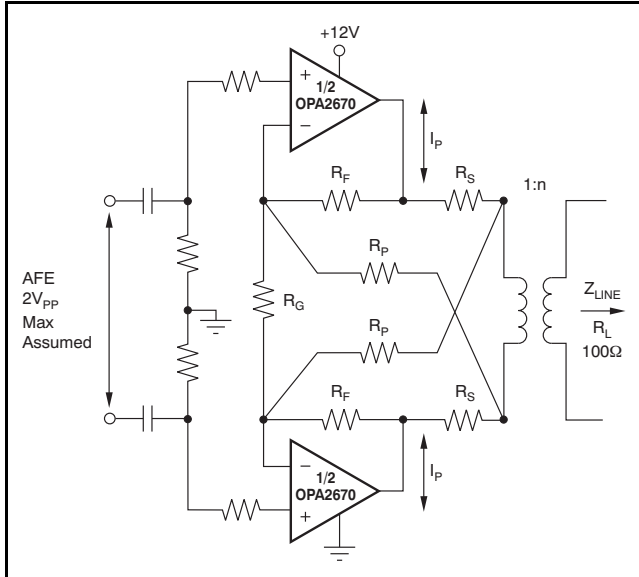

Figure 39. Dual-Supply VDSL Downstream Driver
Figure 39 shows an example of a dual-supply VDSL downstream driver. Both channels of the OPA2670 are configured as a differential gain stage to provide signal drive to the primary winding of the transformer (in Figure 39, a step-up transformer with a turns ratio of 1:n). The main advantage of this configuration is the cancellation of all even harmonic-distortion products. Another important advantage for VDSL is that each amplifier must only swing half of the total output required driving the load.
When using a synthetic output impedance circuit (see Figure 39), a significant drop is noticed in bandwidth from the specification that appears in the Electrical Characteristics table. This apparent drop in bandwidth for the differential signal is a result of the apparent increase in the feedback transimpedance as seen for each amplifier. This feedback transimpedance equation is given below.
Evaluating these equations for the OPA2670 ADSL circuit and component values of Figure 39 gives a total output spot noise voltage of 66.7nV/√Hz and a total equivalent input spot noise voltage of 6.67nV/√Hz
**f) Use the  $-V_S$  plane to conduct heat out** of the QFN-16 PowerPAD package. This package attaches the die directly to an exposed thermal pad on the bottom, which should be soldered to the board. This pad must be connected electrically to the same voltage plane as the most negative supply applied to the OPA2670 (in Figure 39, this supply is GND).